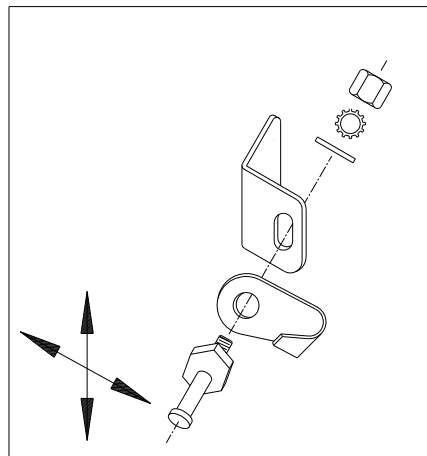

Fig. 17.2 (striker bolt)
17.2 Per fig. 17.2, the large striker bolt and nut can be loosened and reset higher or lower or in or out for better engagement in the door latch assembly if necessary. Use two 19mm open end wrenches. Note: finger guard to end up being centered and facing inward.